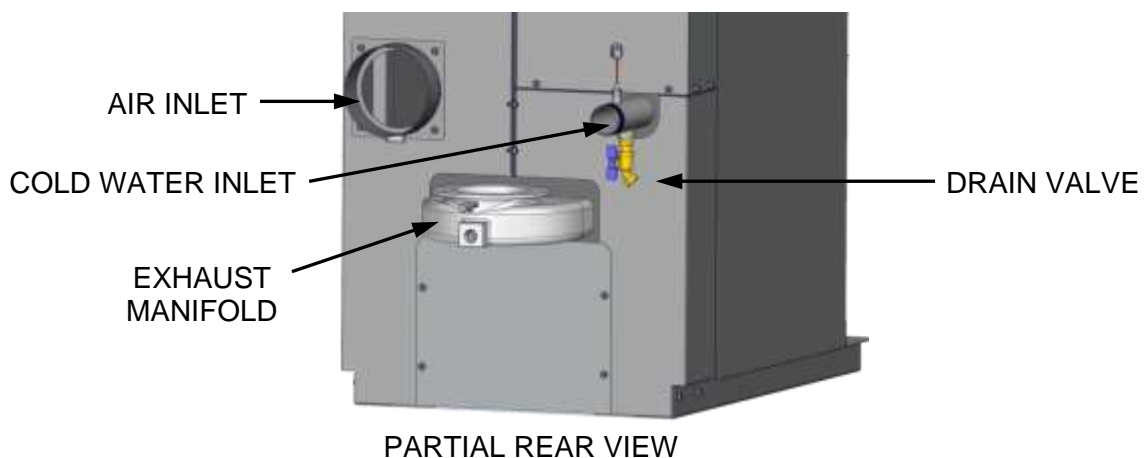

Figure 5.8-3: Water Heater Rear View Showing Air Inlet Location
11. At the rear of the unit, partially block the air inlet (Figure 5.8-3) with a plywood sheet or metal plate.